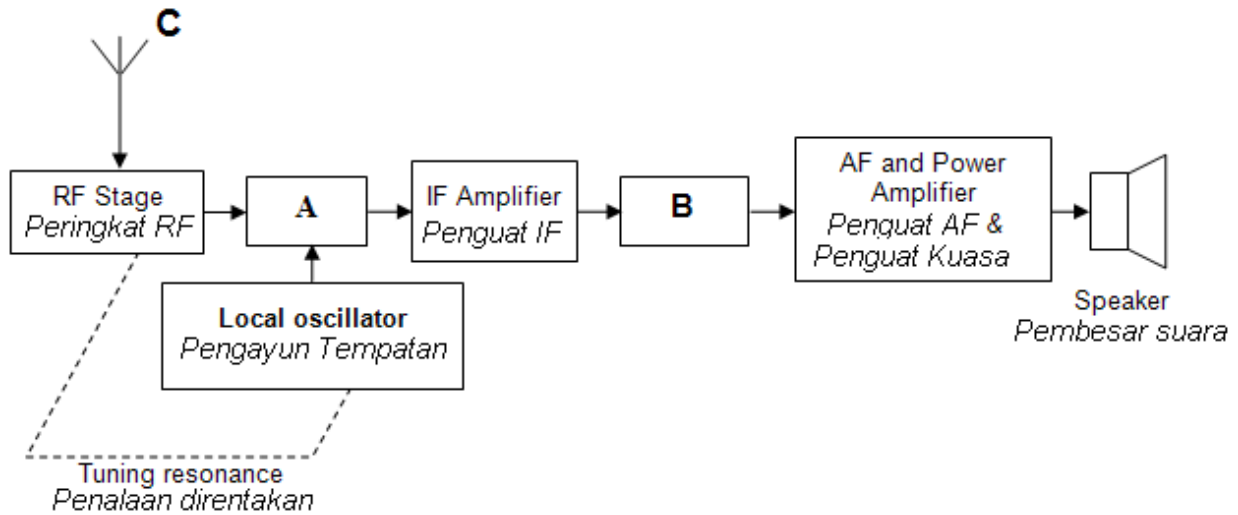

Figure 2
2. Figure 2 shows a block diagram of **AM receiver system**.
- b) Based on Figure 2, **explain** the operating of AM receiving system